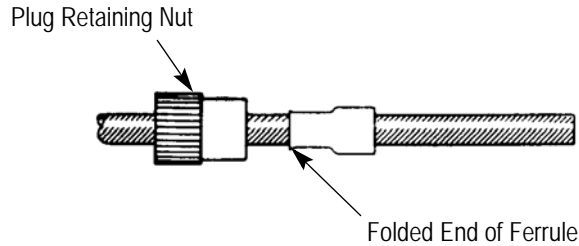

Figure 2
Before stripping the cable, slip plug retaining nut and one ferrule on the cable as shown in Figure 2. Then proceed as follows:
1. Slip another ferrule on the other cable. See Figure 2.